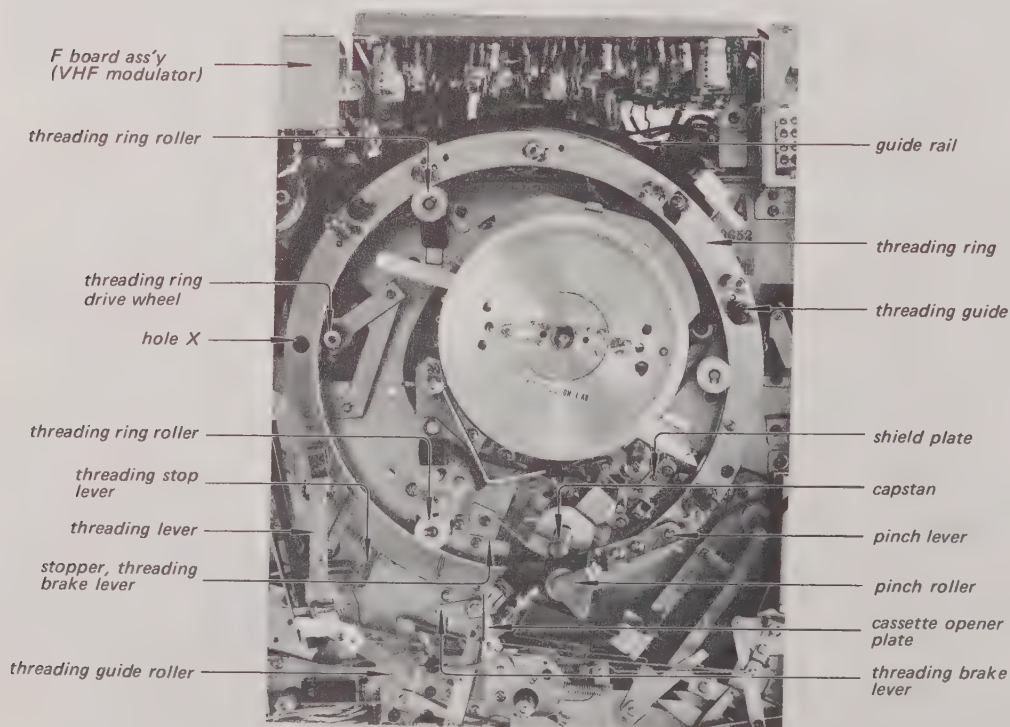

Fig. 5-33. Threading ring replacement
1. Remove the two PS3x6 screws from the top and the three PS3x6 screws from the bottom that secure the F board ass'y and its shield cover and remove the modulator as shown in Fig. 5-33.
2. Release the lock on the Threading Ring and rotate the ring by hand until the hole marked with an X in Fig. 5-33 is in front of the capstan shaft. Do not push on the guides. Use the point of a Phillips head screwdriver in the hole in the ring.